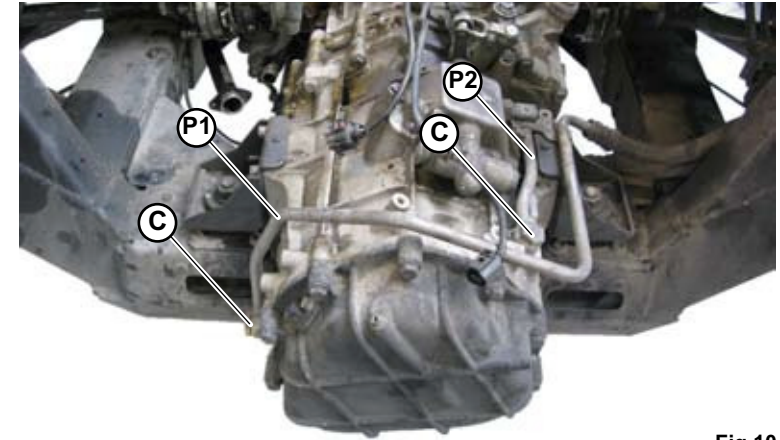

Fig.10
3. Unscrew the nuts (**C-Fig.10**) and disconnect the rear **P1** and **P2** pipes from the gearbox.